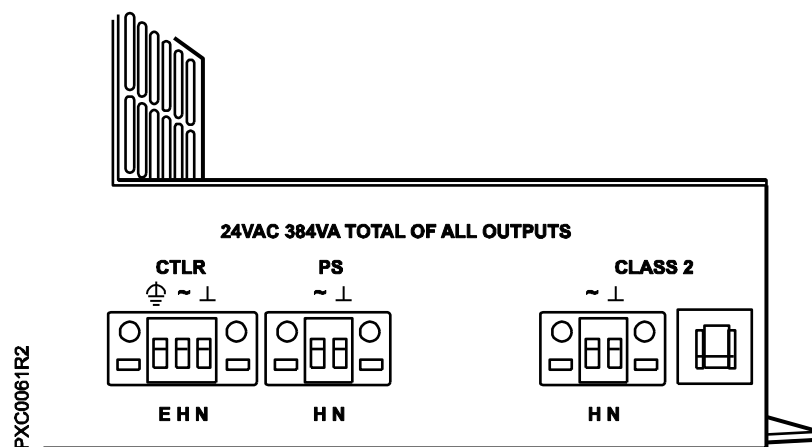
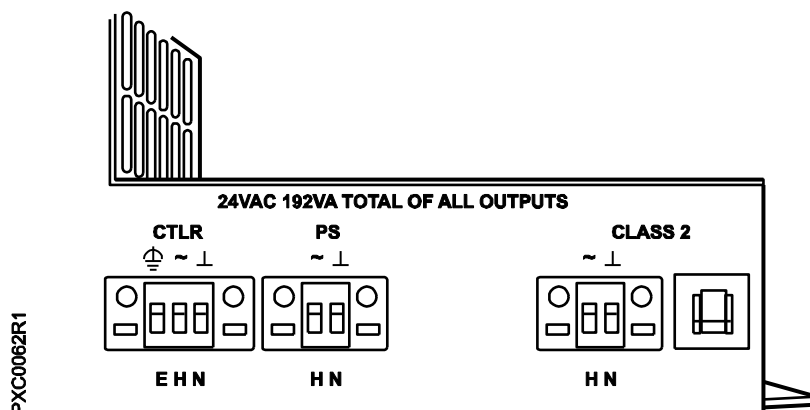

Figure 2. 384 VA Service Box Connections¹.
Figure 4. 192 VA Service Box Connections².
- f. Connect the CS wire inside enclosure to the relay contact normally open terminal (NO).
8. If present, fasten wires from the component power connectors to connectors on the side of the service box. See Figure 2 and Figure 4.